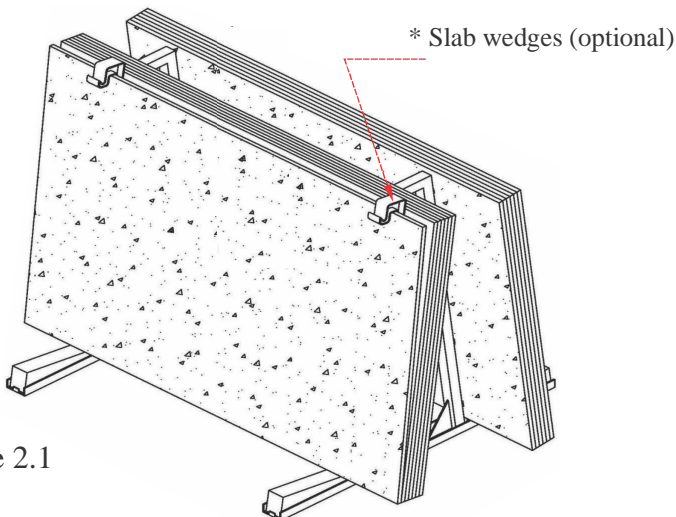

Figure 2.1
Step 2: Use slab wedges* to make a gap between the outer slab and the inner slab (figure 2.1).